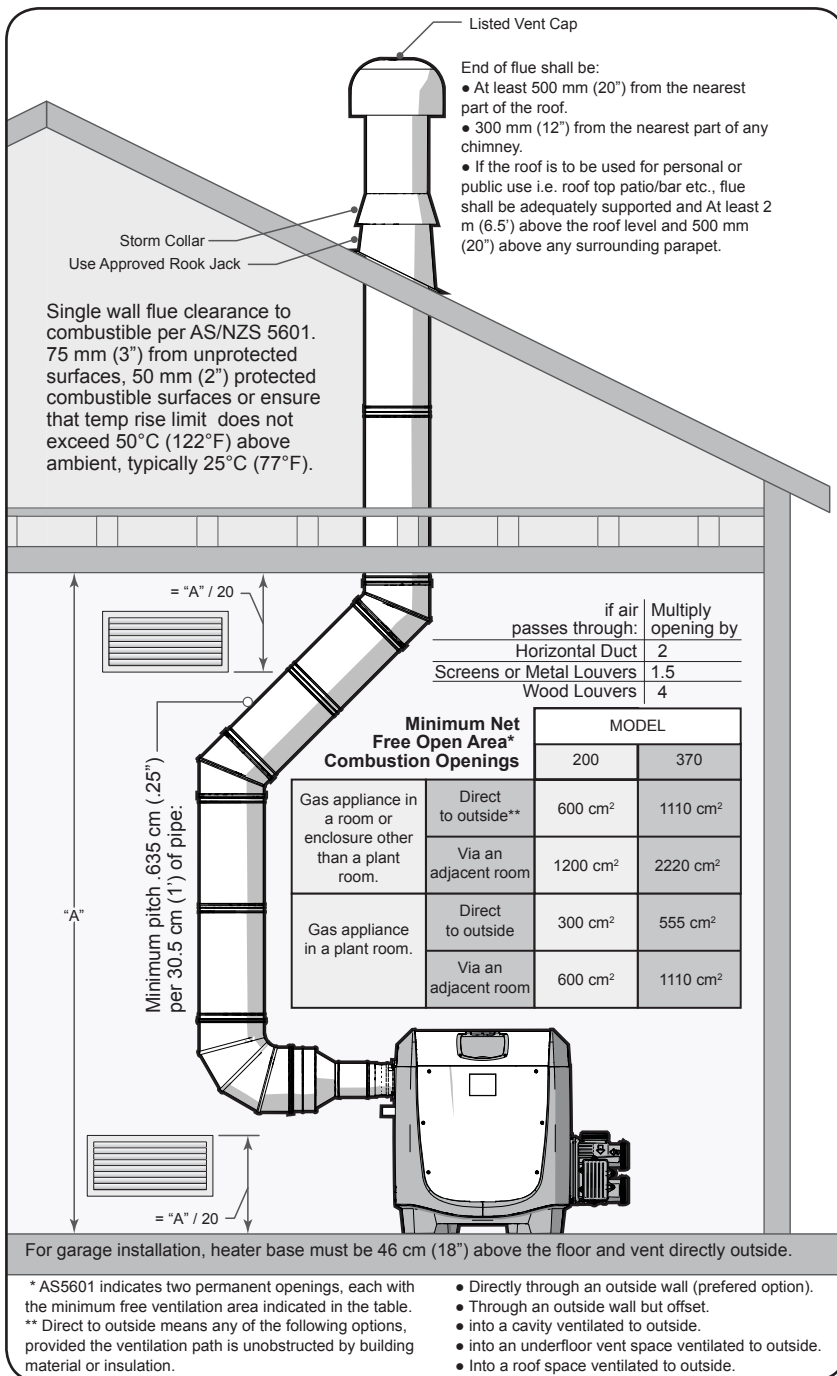

Figure 4. Indoor and Outdoor Shelter Installation
When combustion air is supplied directly through an outside wall, each opening should have a minimum free area of 25.4 mm square (1 in²) per 1.2 kW input of the total input rating of all appliances in the enclosed area. If combustion air must pass through horizontal ducts, each opening should have a minimum free area of 25.4 mm square (1 in²) per 1.2 kW input of the total input rating of all appliances in the enclosed area. Details can be found in *Figure 4*.
The “Minimum Net Free Open Area” information from *Figure 4* is not applicable in installations where exhaust fans or blowers of any type are used. Any equipment which exhausts air from the room where the heater is installed can deplete the combustion air supply or reverse the natural draft action of the venting system. This could cause flue products to accumulate in the room. Additional air must be supplied to compensate for such exhaust. Consult a professional engineer to ensure that installations where exhaust fans or blowers are used are designed and installed in accordance with all applicable local and national installation codes.
- **STATIC PRESSURE - NEGATIVE:** Appliance operates with a negative vent static pressure, a vent gas temperature that avoids excessive condensate production and will vent vertically terminating at the roof. Termination must pass through a properly installed and approved roof jack, a properly sized storm collar and a listed vent cap. See *Figure 4*.
- **Do Not** incorporate more than three elbows. Horizontal runs of vent piping may be used but must not exceed 4.9m (16 ft.) in length and must always maintain the minimum pitch/slope for any horizontal runs, as specified in *Figure 4*.